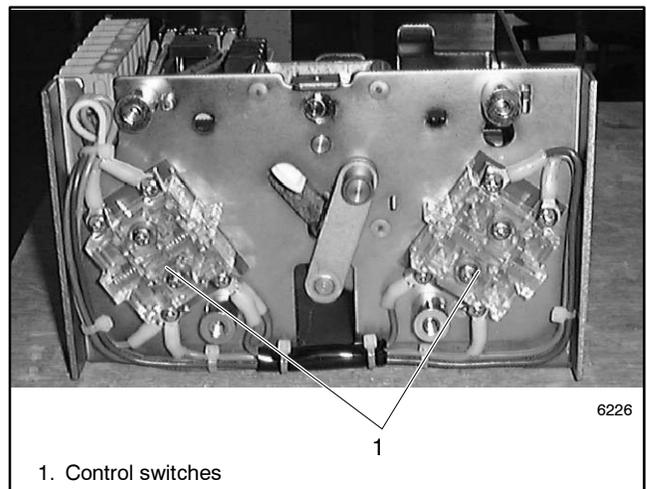

Figure 6-13 Control Switches
3. Note the connections (for reconnection later) and disconnect the control switch leads at eight locations. See Figure 6-13.